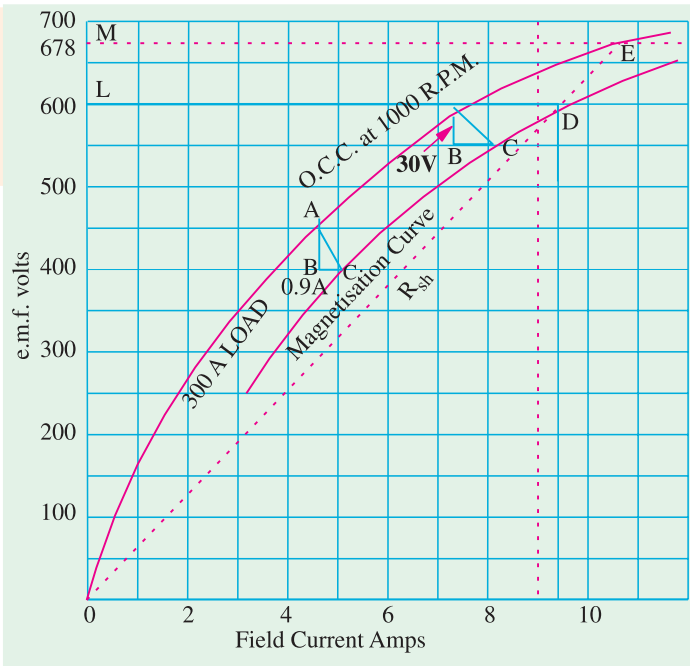

Fig. 28.19
**Solution.** As shown in Fig. 28.19, the O.C.C. has been plotted from the given data.